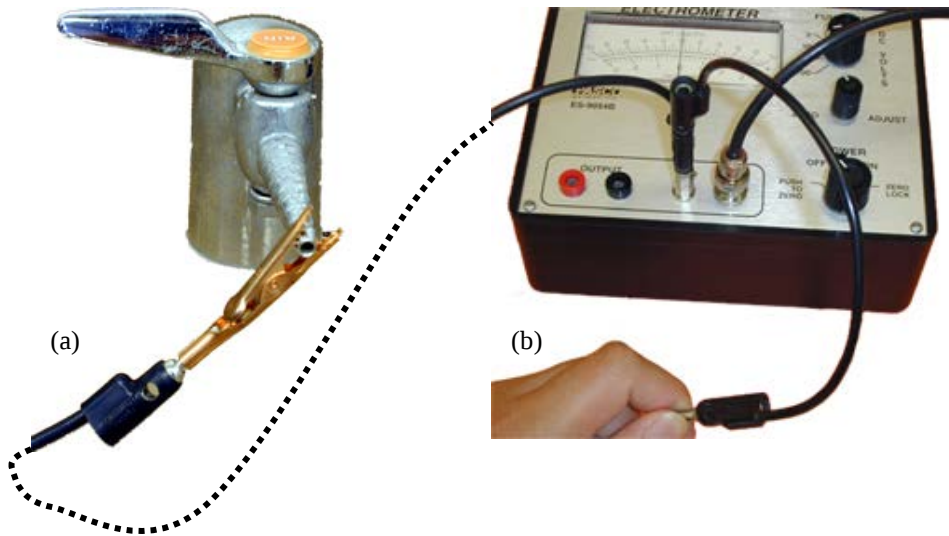

Figure 9-6. Grounding.
- Connect the ground cables as shown in Figure 9-6.
- Connect the GND terminal on the electrometer to a ground. One way to do this is to use a lead with banana plugs, and connect one end to a gas or air nozzle using an alligator clip, as shown in Figure 9-6 (a).
- Ground your body by holding onto a banana plug cable, as shown in Figure 9-6 (b) before you start the procedure.